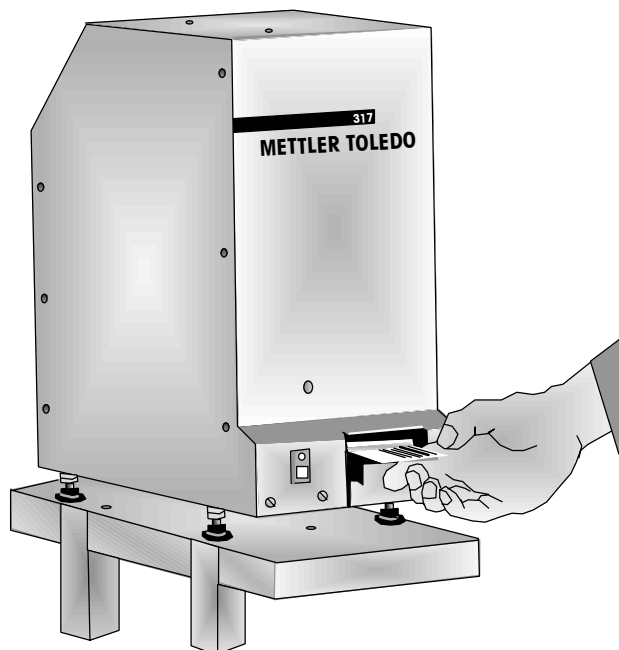

Figure 7-1: 317 Printer with Label
9. Take the label from the printer. (Figure 7-1)